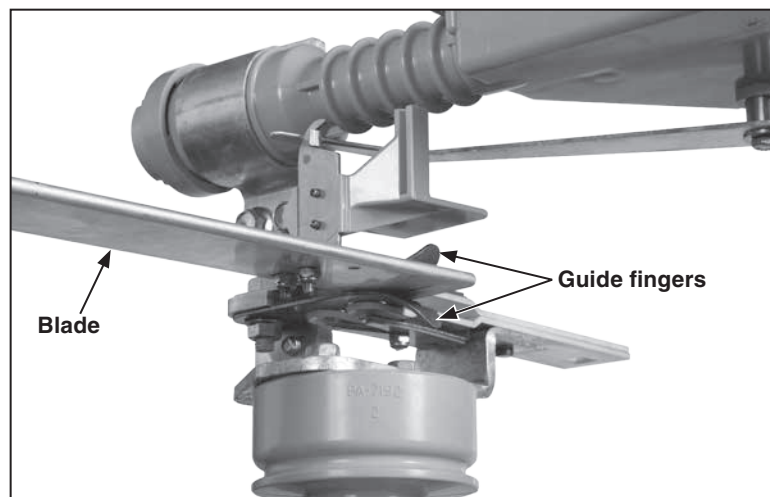

Figure 30. During closing, make sure the blade enters the guide fingers on center.
- The blade should move into the jaw contact guide fingers on center and rests against the closed gap. See Figure 30.